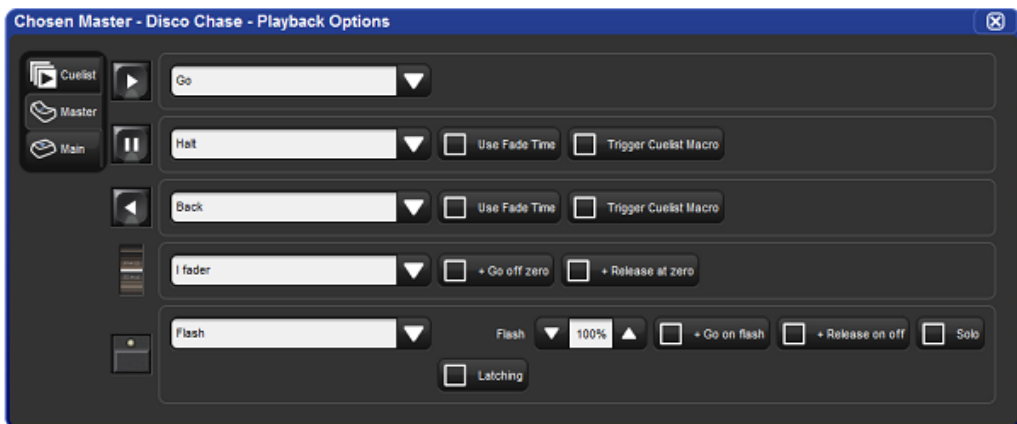
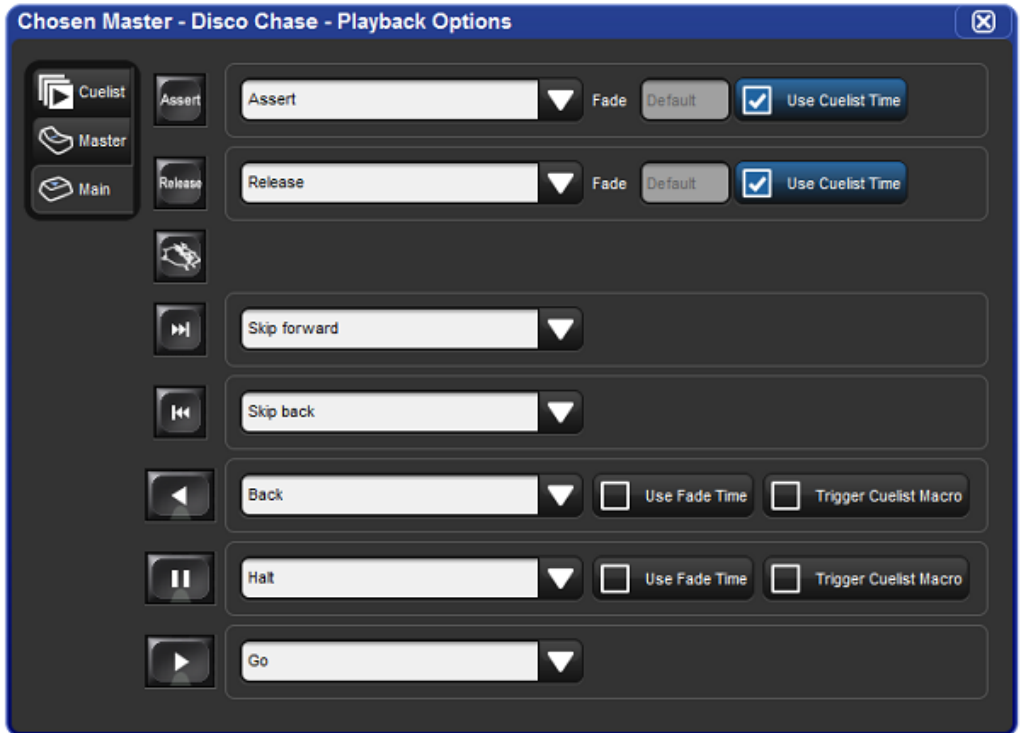

Figure 17.11. The Master pane of the Cuelist Options window
Figure 17.12. The Main Controls pane of the Cuelist Options window
3. Under Controls, select the Master or Main Controls pane; see *Figure 17.11*, "The Master pane of the Cuelist Options window" and *Figure 17.12*, "The Main Controls pane of the Cuelist Options window".